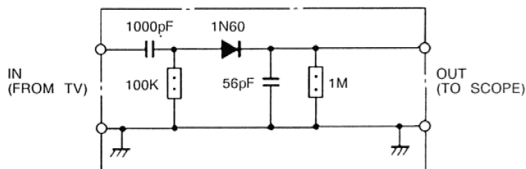

Figure 9. Detector Diagram
- OSCILLOSCOPE..... Connect through the detector (See figure 9.) to the emitter of QN01.